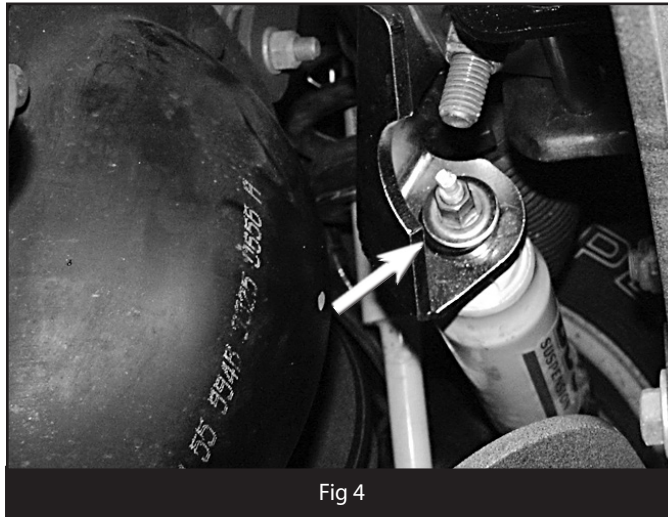

Fig 4
7. Install bushings and cup washers on driver's side stabilizer, following same procedure as passenger's side. (Figure 4)